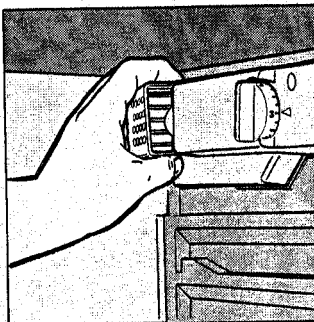

Fig. 3
- Replacing the light bulb. The bulb for lighting the interior of the appliance is located at the back of the thermostat box. Unscrew the burned out bulb and replace it with another bulb with a wattage no higher than 15 Watt, follow the instructions illustrated in fig. 3.